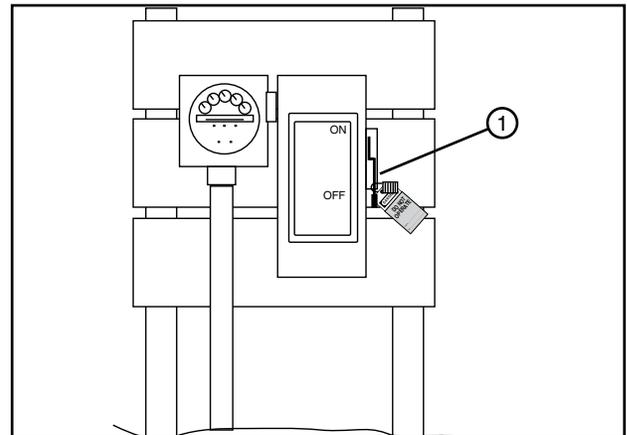

Figure 59-1 1. Public Power Service Disconnect
1. SHUT OFF and LOCK the public power service disconnect to the irrigation machine. See Figure 59-1.
FILL OUT the blue (OSHA safety color code) tag and attach to the disconnect after locking. See Figure 59-1.